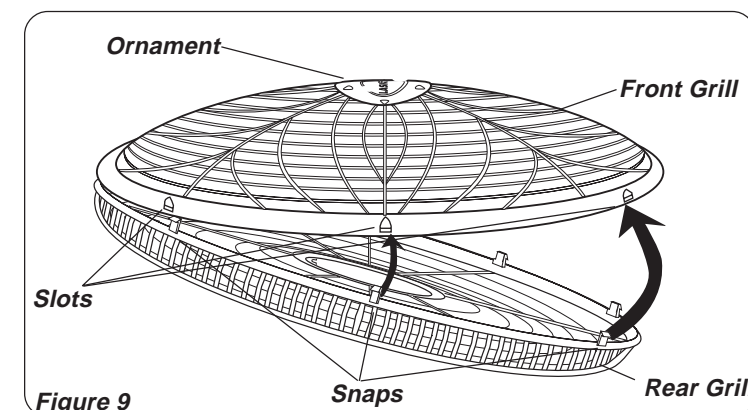

Figure 9
5. With fan head in upright position, align **Ornament** of **Front Grill** so it is horizontal and right side up. By starting with the top of the grill and working down, insert **Snaps** on **Rear Grill** through **Slots** in **Front Grill**. (Figure 9)